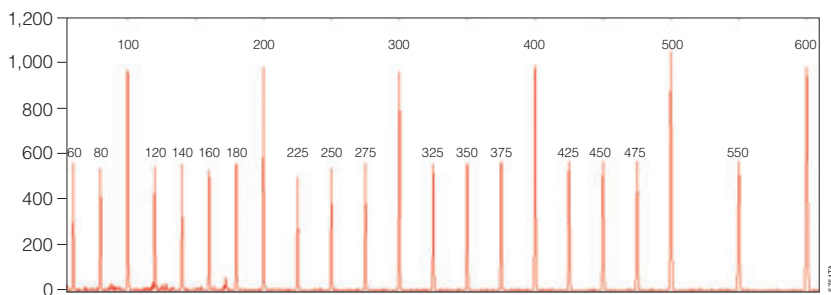

Figure 13. Internal Lane Standard 600. An electropherogram showing the fragments of the Internal Lane Standard 600.
The Internal Lane Standard (ILS) 600 contains 22 DNA fragments of 60, 80, 100, 120, 140, 160, 180, 200, 225, 250, 275, 300, 325, 350, 375, 400, 425, 450, 475, 500, 550 and 600 bases in length (Figure 13). Each fragment is labeled with carboxy-X-rhodamine (CXR) and may be detected separately (as a fourth color) in the presence of PowerPlex® ES-amplified material. The ILS 600 is designed for use in each capillary electrophoresis (CE) injection to increase precision in analyses when using the PowerPlex® ES System.